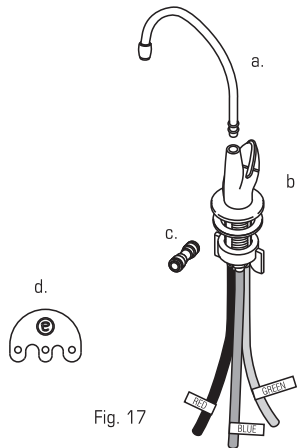

Fig. 17
**eSpring** Auxiliary Faucet Components (Fig. 17):
**NOTE: You must use the Supply Connector (Fig. 17, part c) between the valve at the water supply and the eSpring Faucet.**